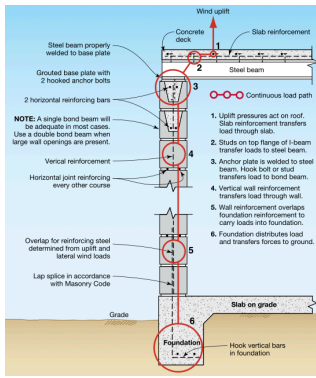

Figure 3: FEMA P-361
4. Ensuring a Continuous Load Path: Establishing a robust load path through the shelter is vital to its performance (Figure 3). Missing or inadequate connections could lead to catastrophic failure. Special inspections should verify the integrity of post-installed anchors, especially given the significant uplift forces